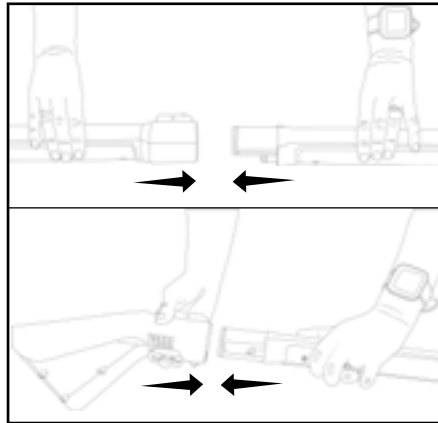

Fig. 5
5. Depending on the accessory tool being used either attach both wands together and slide onto the hose until you hear a click and attach the carpet tool to the wand (Fig 5)